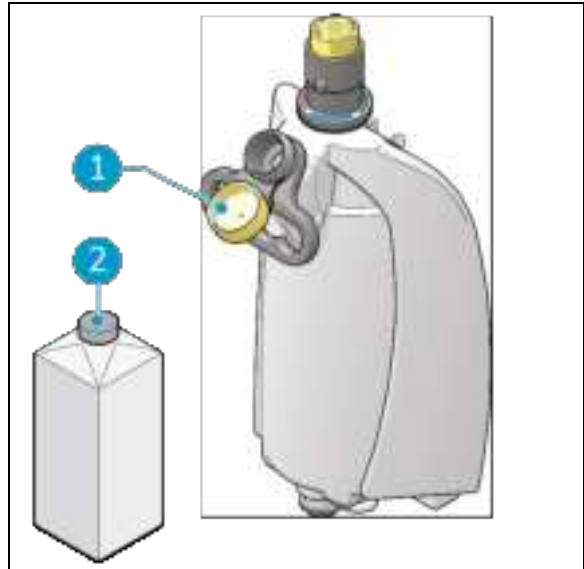

Figure 15
4. Remove the yellow cap (Figure 15, pos. 1).
5. Pour in a maximum of 1 gal / 4 L of water (Figure 15, pos. 2).
6. But back the yellow cap (Figure 15, pos. 1) and make sure it seals tightly.
11. Press the i-dose injector button (Figure 15, pos. 5) to dispense the contents of the i-dose pod.
12. Turn the indicator ring so that the color corresponding to the i-dose pod is facing towards you (Figure 15, pos. 3).